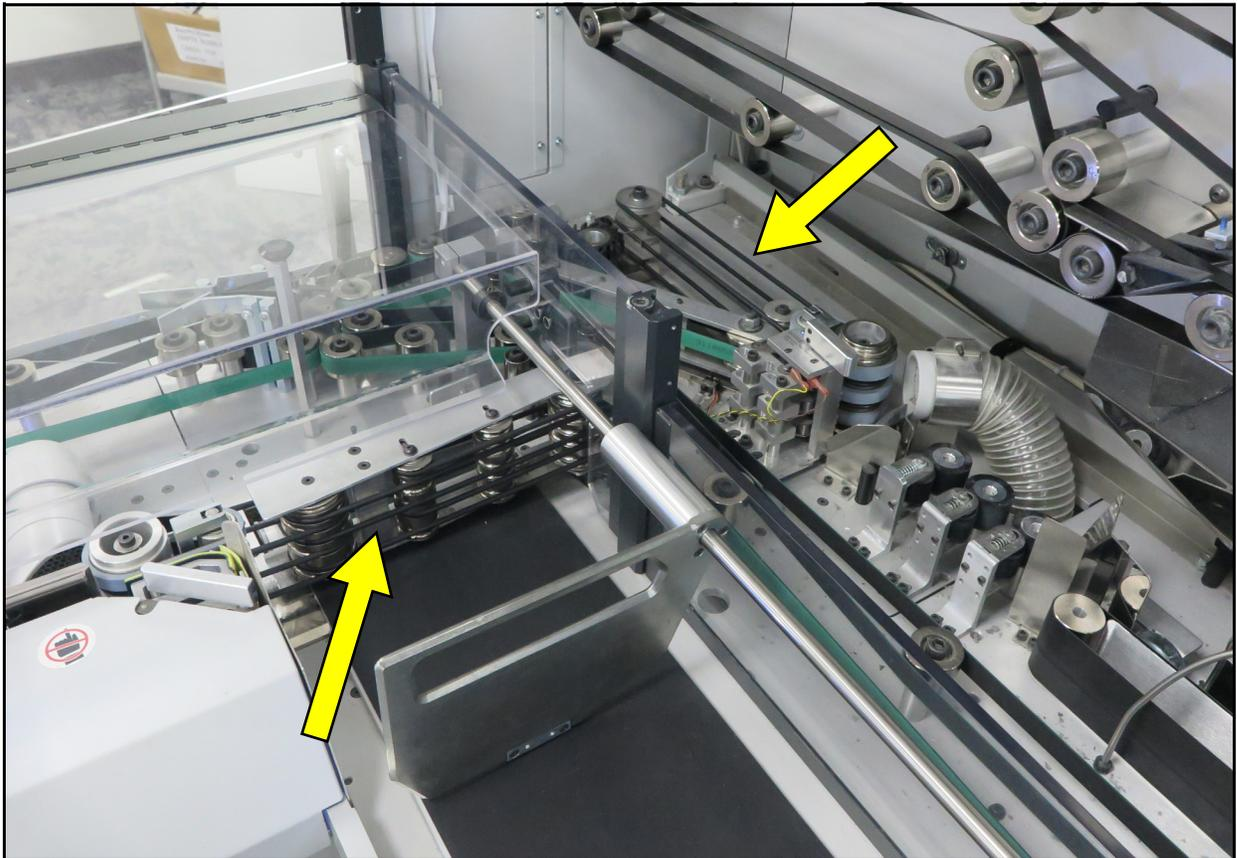

Figure 6-1: Main and buffer feeder O-rings
- Clean the main and buffer feeder o-rings (Figure 6-1).